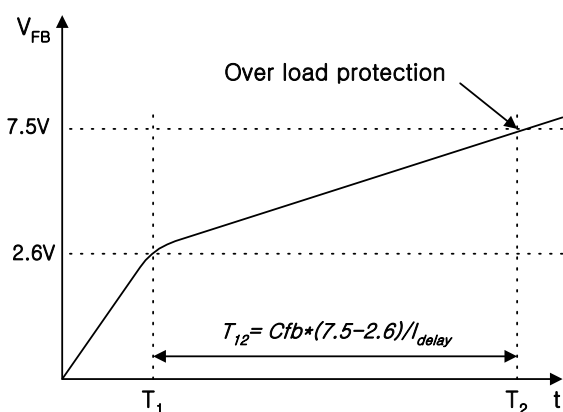

Figure 19. Over Load Protection
Overload means that the load current exceeds a pre-set level due to an abnormal situation. In this situation, the protection circuit should be activated to protect the SMPS (Switch Mode Power Supplies). However, even when the SMPS is in normal operation, the over load protection circuit can be activated during the load transition. To avoid this undesired operation, the over load protection circuit is designed to be activated after a specified period to determine whether it is a transient situation or an overload situation. Because of the pulse-by-pulse current limit capability, the maximum peak current through the SMPS is limited, and therefore the maximum input power is restricted with a given input voltage. If the output consumes beyond this maximum power, the output voltage ( $V_o$ ) decreases below the set voltage. This reduces the current through the opto-coupler diode which also reduces opto-coupler transistor current increasing  $V_{fb}$ . If  $V_{fb}$  exceeds 2.6V, D1 is blocked and the 5mA current source starts to charge  $C_{fb}$  slowly compared to when the 0.9mA current source charges  $C_{fb}$ . In this condition,  $V_{fb}$  continues increasing until it reaches 7.5V, and the switching operation is terminated at that time as shown in Figure 19. The delay time for shutdown is the time required to charge  $C_{fb}$  from 2.6V to 7.5V with 5mA. When  $C_{fb}$  is 10nF (103), T12 is approximately 9.8ms and when  $C_{fb}$  is 0.1mF (104), T12 is approximately 98ms. These values are enough to prevent SMPS from being shut down during transient situations.